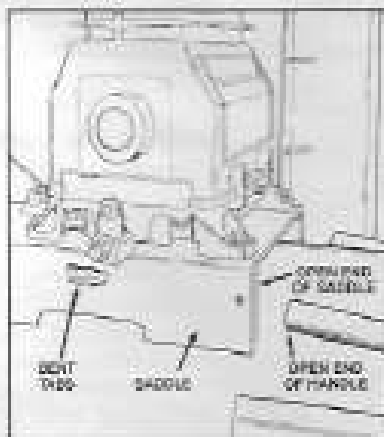
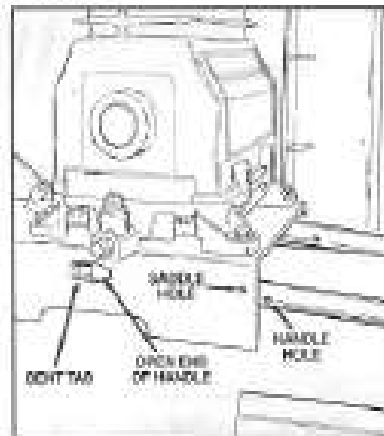

Fig. 1
Fig. 2
1. Insert the open end of the handle under the saddle (Fig. 1). Looking in from the open end of the saddle, position the handle towards the two bent tabs, on the inside walls of the saddle. Slowly push the open end of the handle onto both tabs at the same time (Fig. 2). Continue pushing the handle into the saddle, until the tabs on the side of the saddle and handle are in line.